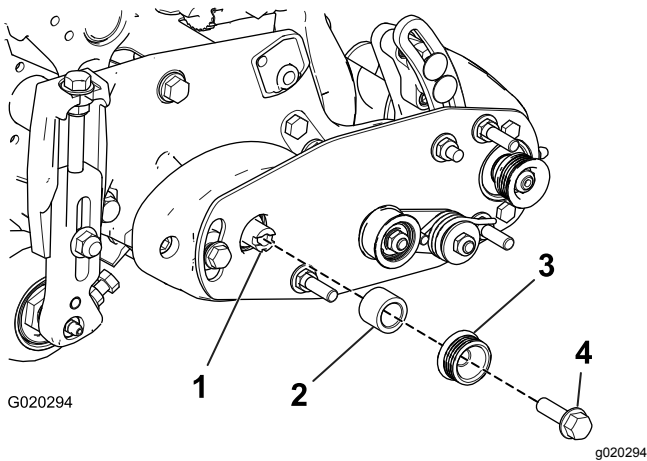
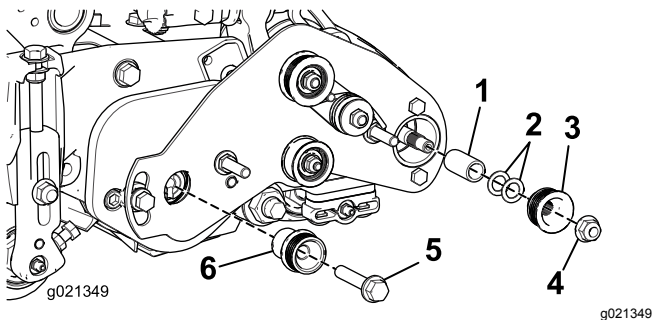

Figure 19
Figure 20
33. Insert the spacer onto the shaft in the bearing housing (Figure 19).
34. Insert the drive pulley into the spacer and onto the drive shaft (Figure 19 and Figure 20).
35. Secure the pulley and spacer to the drive shaft with a flange head bolt (3/8 x 2 inch) (Figure 19 and Figure 20).
36. On the 22-inch cutting units only, install the spacer and driven pulley with a locknut (Figure 20).